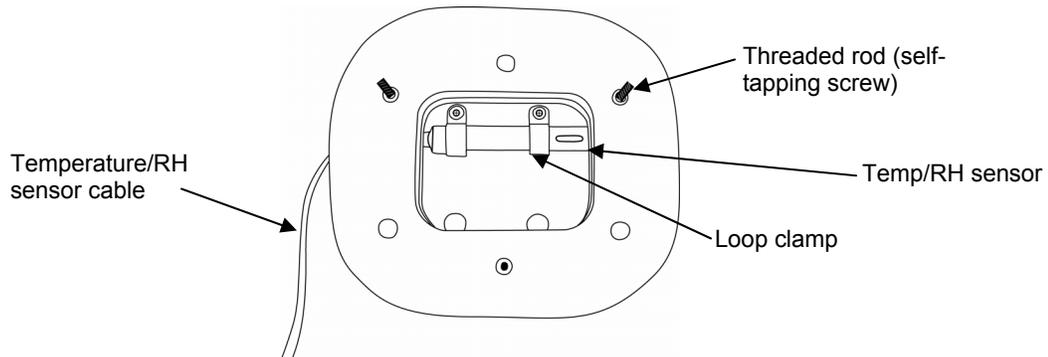
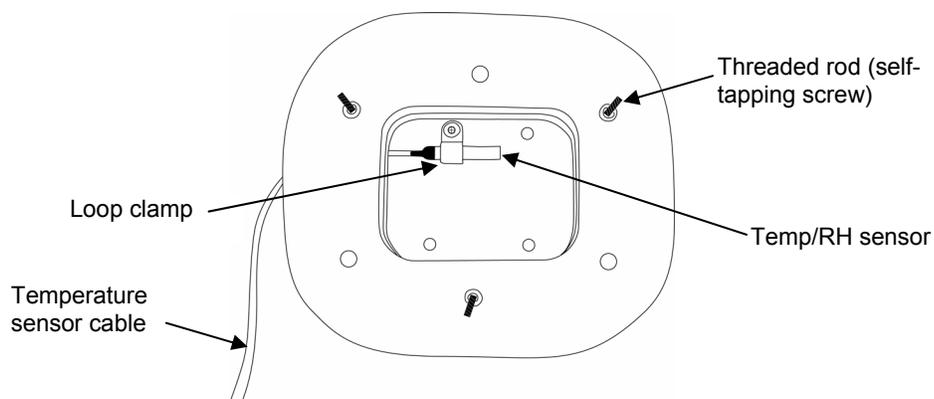
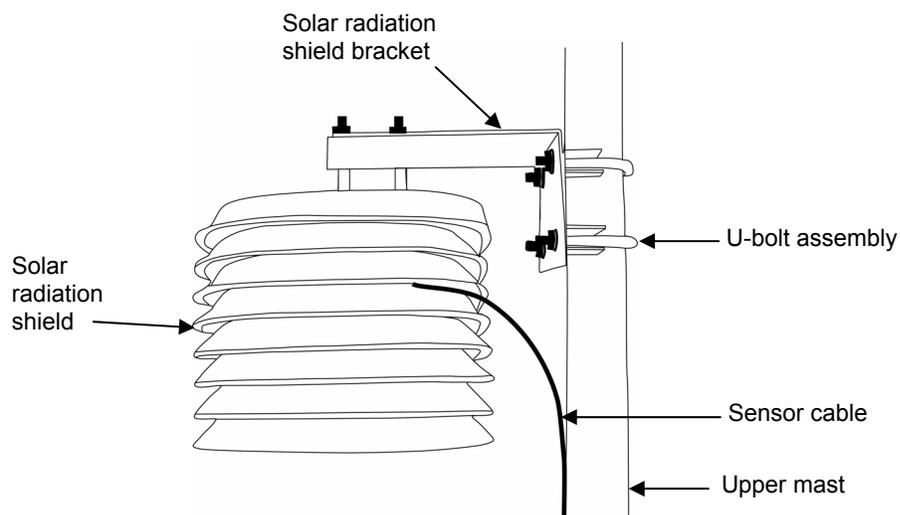

Figure 30: Temperature/RH sensor inside solar radiation shield
Figure 31: Temperature sensor inside solar radiation shield
Figure 32: Solar radiation shield attachment
1. **To install the temperature/RH sensor into the solar radiation shield:** Remove the bottom three shield plates by removing the three wing nuts. Install the temperature/RH sensor using the two black loop clamps, two washers, and two self-tapping screws (see Figure 30). Be careful not to block the RH sensor openings. Feed the cable out through the third and fourth shield plates (see Figure 32). Replace the bottom three shield plates.
To install the temperature sensor into the solar radiation shield: Remove the bottom three shield plates by removing the three wing nuts. Install the temperature sensor using the small black loop clamp, washer, and screw (see Figure 31). Feed the cable out through the third and fourth shield plates (see Figure 32). Replace the bottom three shield plates.